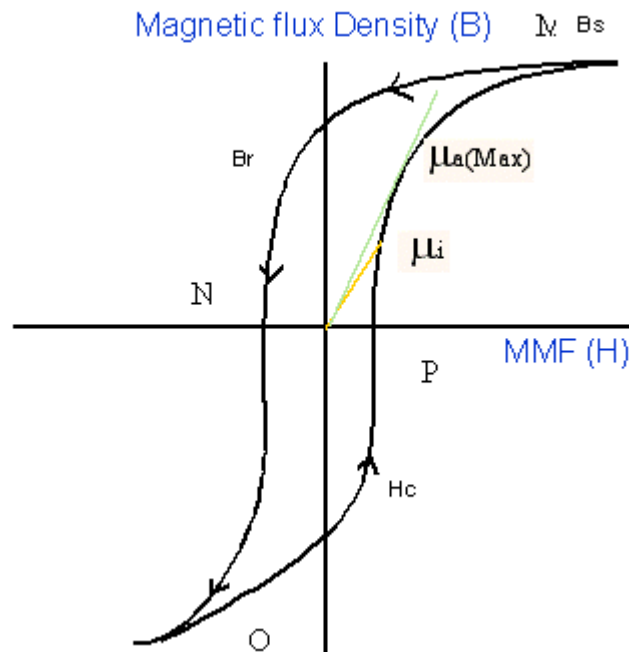

Figure 106: Calculating Magnetics
Magnetic Field Strength (H): The Figure 106 shows the hysteresis in a typical magnetic material. The magnetic field induces a magnetic flux in the DUT. The units of measurement are Ampere/mtr in SI unit and Oersted in CGS unit.